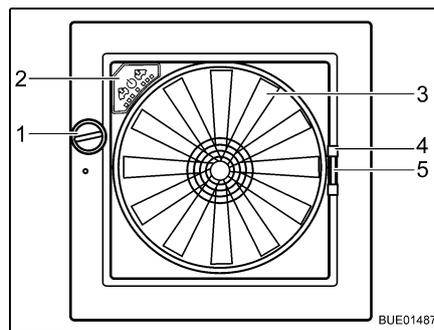

Fig. 78 Omni-Vent skylight
Opening: ■ Turn the knob (Fig. 78,1) until the desired opening angle is reached.
Closing: ■ Turn the knob (Fig. 78,1) until the skylight is fully closed.
Closing: ■ Using the handle (Fig. 78,4) pull the insect screen across to the other side of the frame.
Closing: ■ Press together the handle (Fig. 78,5) of the shade.
- Fan** If the skylight is open, the interior can be vented and aerated with the 6-speed fan (Fig. 78,3). The fan is operated via the operating panel (Fig. 78,2).